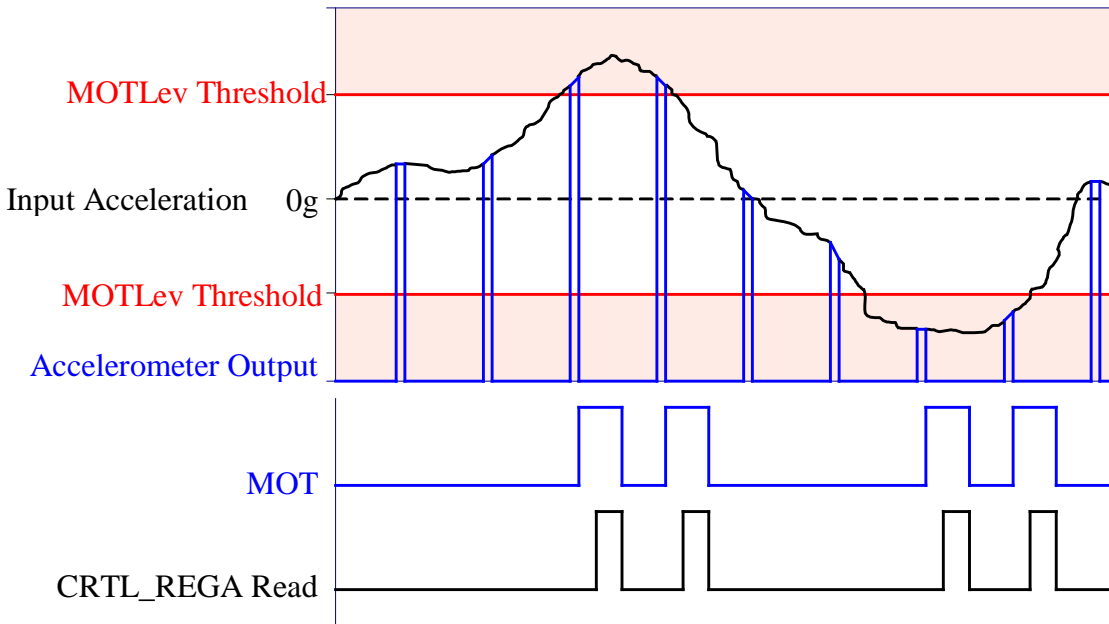

Figure 8 Unlatched Motion Wake Up Response
MOTLat = 0 – If MOTLen in CTRL_REGB is “1” and a motion event happens, the MOTI bit in CTRL_REGA will be set to “1” and the MOT pin (7) will be pulled high. The part will remain in low power motion wakeup mode. The MOT pin (7) can be cleared by reading CTRL_REGA. Figure 8 shows the response of the KXSD9 as described above.